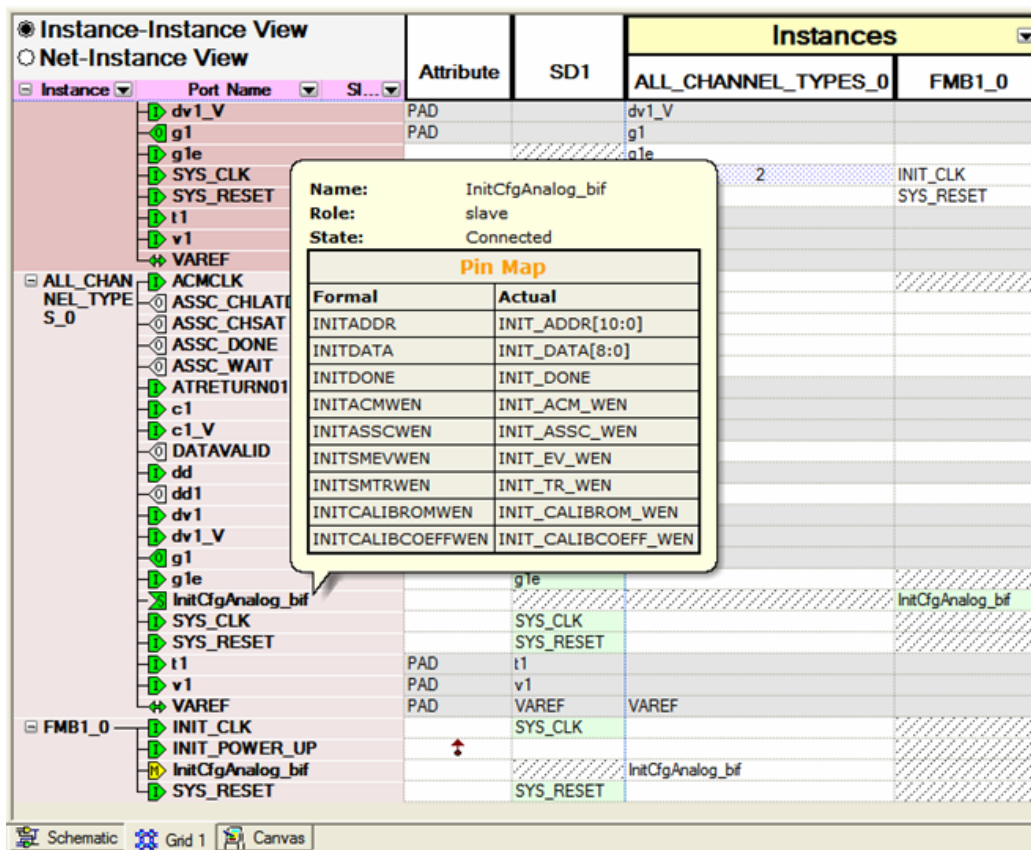

Figure 12-8 • SmartDesign Connectivity Grid in Libero v8.2 SP1
4. Make sure the additional ports (INIT_CALIBROM_WEN and INIT_CALIBCOEFF_WEN) are properly connected, either through SmartDesign (Figure 12-8) or HDL coding.